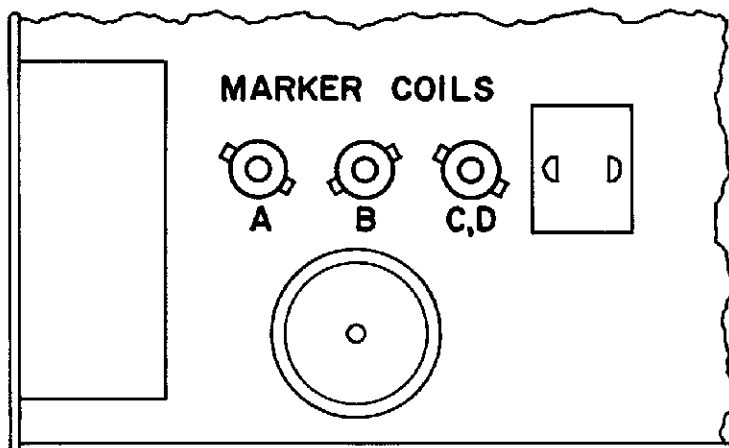

FIGURE 10
2. Set the MARKER RANGE selector at position C-D and the MARKER 2-225mc dial to 22.5mc (5th harmonic of the crystal). Adjust the marker oscillator coil slug for Band C-D (see Fig. 10 for location) for zero beat between the crystal and variable marker oscillators. (The approach of zero beat will be indicated by an increased trace amplitude. Exactly at zero beat, the amplitude of the trace will drop to zero. Increased trace amplitude will be visible again on the other side of zero beat.) As there are strong crystal harmonics every 4.5mc, you can not be sure that the variable oscillator is zero beating against the selected harmonic without checking. For this reason, the coil slugs have been pre-set in production at approximately the correct position, so that the zero beat between the variable marker oscillator set to 22.5mc and the 5th harmonic of the 4.5mc crystal occurs when the coil slug is adjusted not more than a few turns either way from the pre-set position. To make certain that the coil slug adjustment is correct, it must be checked by setting the MARKER 2-225mc dial at 27mc (6th harmonic), 31.5mc (7th harmonic), and 36mc (8th harmonic), at all of which frequencies zero beat should occur again. If these checks do not confirm the correctness of the coil slug adjustment, reset the dial to 22.5mc and readjust the coil slug for zero beat at a different point. In all these adjustments, it may be necessary to re-adjust the MARKER SIZE control for a beat signal display of convenient amplitude on the 'scope.